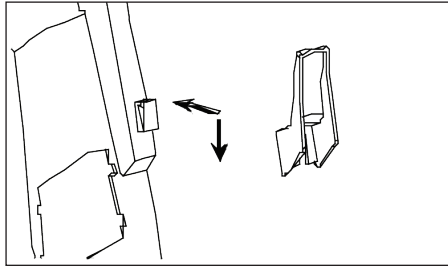

Figure 7 - Attach cord holder (PW1625 only)
1. Attach cord holder (see Figure 7).